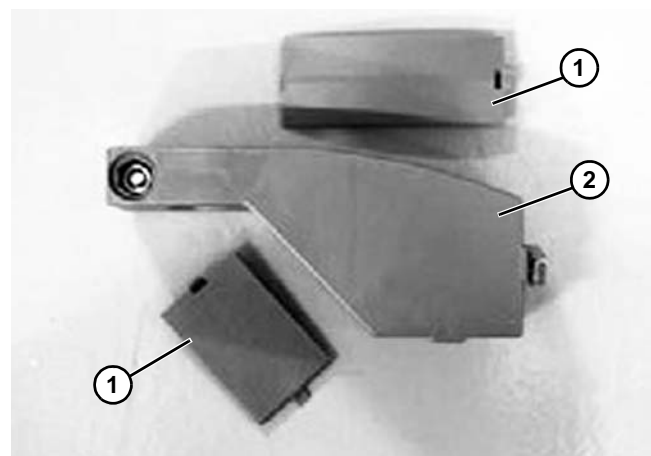

Figure 94
1. Open the upper and lower caps (**Figure 94, item 1**) and prepare the FGRB - 40 guide rail bracket (**Figure 94, item 2**) with T-bolt.